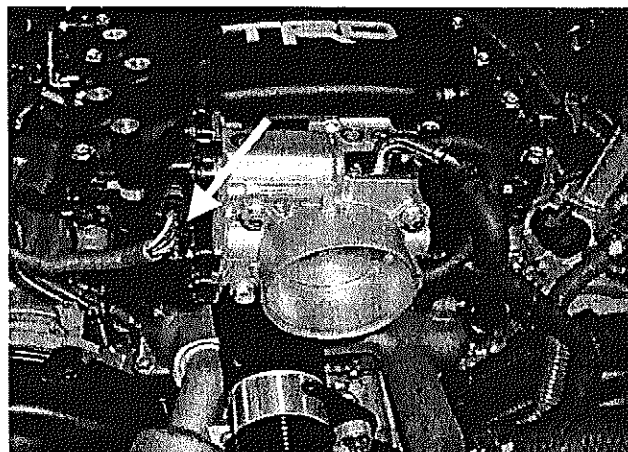

Figure 36
26. Connect the throttle control motor / throttle position sensor connector to the throttle body (Figure 36).